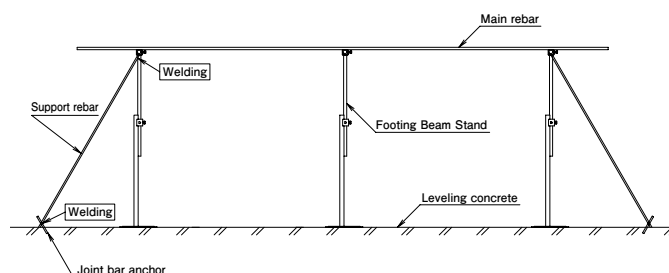

Fig. 1 Example of reinforcement
- Arrange the product vertically through the use of a stay bar, etc., to prevent lateral movement as shown in Fig. 1.